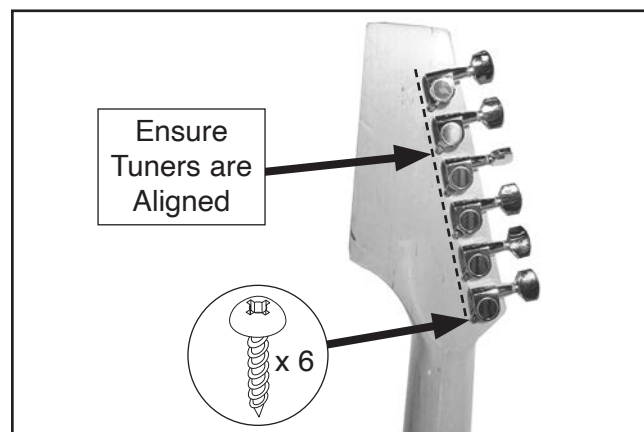

Figure 18. Tuning machines installed and aligned on headstock.
3. Secure tuning machines to headstock with screws, as shown in **Figure 18**.